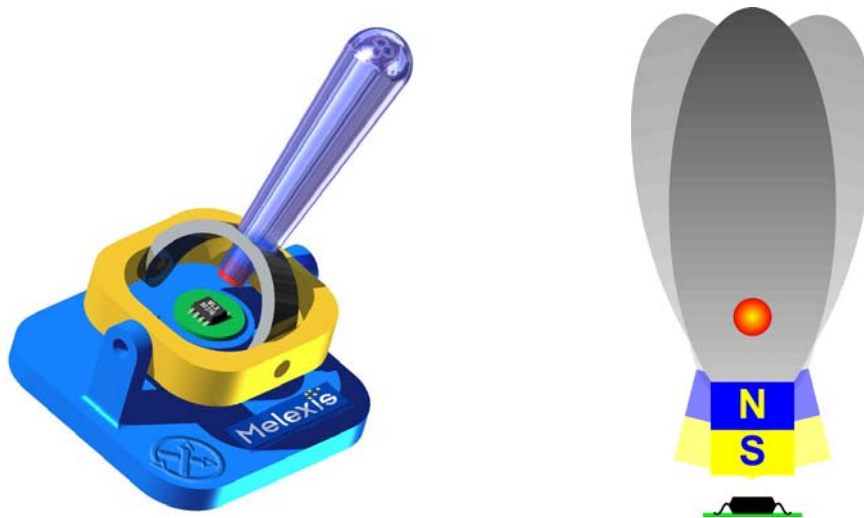

Figure 3 - Typical application of MLX90333
In combination with the appropriate signal processing, the magnetic flux density of a small magnet (axial magnetization) moving above the IC can be measured in a non-contacting way (Figure 3). The two (2) angular information are computed from the three (3) vector components of the flux density (i.e.  $B_x$ ,  $B_y$  and  $B_z$ ). MLX90333 reports two (2) linear output signals. The output formats are selectable between Analog, PWM and Serial Protocol.